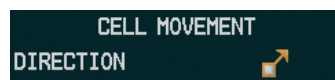

Figure 6-21 Cell Movement Legend
- 1) Select the **MAP** Softkey. This step is not necessary on the Weather Data Link (XM) Page.
- 2) Select the **NEXRAD** Softkey (**CEL MOV** Softkey on the Weather Data Link (XM) Page). For Cell Movement to be displayed on maps other than the Weather Data Link (XM) Page, Cell Movement must be enabled in the Navigation Map Setup Menu (see the procedure ‘Setting up and customizing weather data for the Navigation Map Page’).
To display the Cell Movement legend on the Weather Data Link (XM) Page, (Figure 6-21), select the **LEGEND** Softkey when Cell Movement is selected for display.